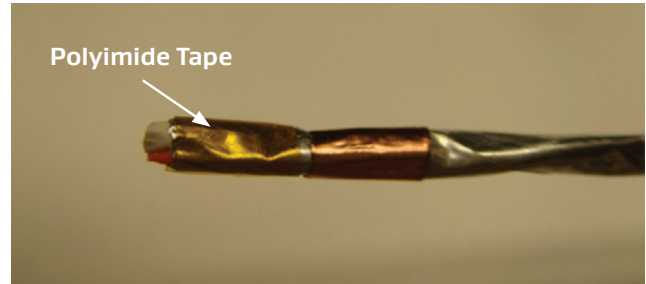

Figure 51: Adding tape to each pair
11. Wrap a 0.5-inch piece of copper tape around each pair directly next to the piece wrapped in step 8 (Figure 51).